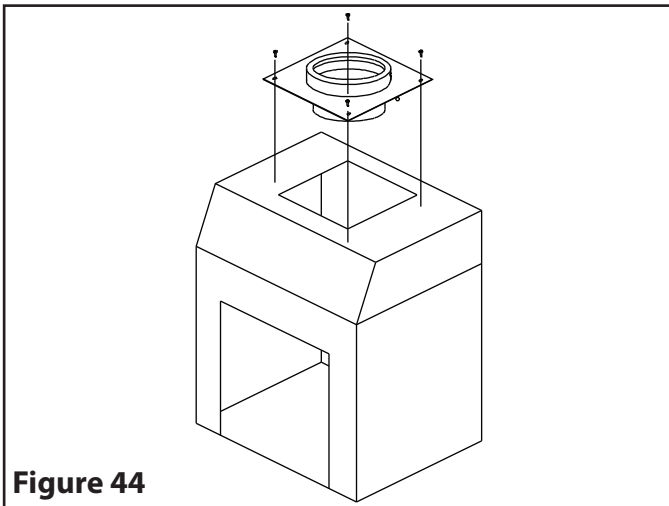

Figure 44
Once the appliance is installed, bolt the Anchor Plate (AP) to the appliance using appropriate fasteners. See **Figure 44**. Secure the first section of chimney to the AP using the 4 supplied sheet metal screws.